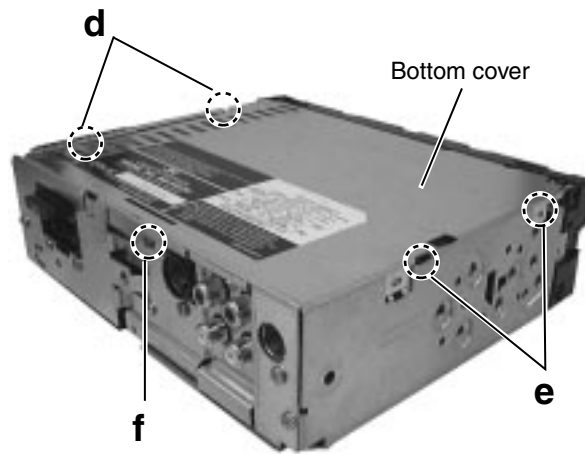

Fig. 4
■ **Removing the bottom cover (See Fig.4)**